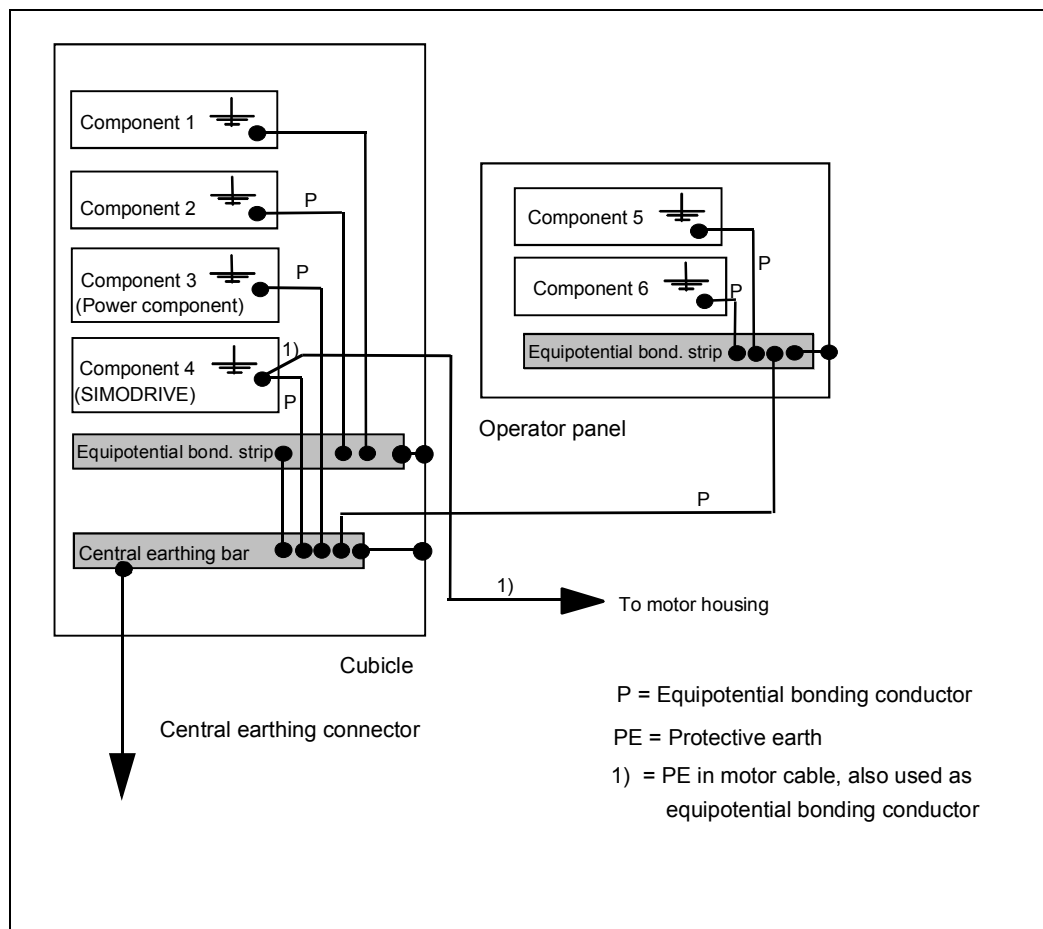

Fig. 4-2 Equipotential bonding by means of equipotential bonding lines
If no meshed connection is possible via the cabinet housing between control components and the central earthing bar (e.g. because of a control cabinet with an insulated rear panel), the equipotential bonding can also be provided between components and the central earthing bar by means of equipotential bonding lines (see Section 4.2, Fig. 4-2).
- separate equipotential bonding bus (see Section 4.2, Fig. 4-2).